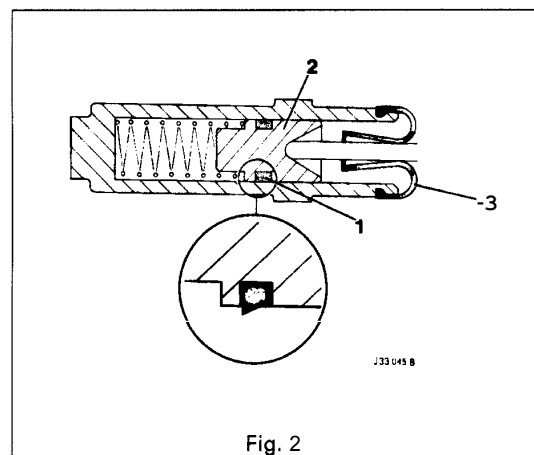

Fig. 2
- Fit the new seal (1 Fig. 2) to the piston (2 Fig. 2) with the flat back of the seal against the shoulder.
- Before fitting the dust cover (3 Fig. 2), smear the sealing areas with rubber grease.